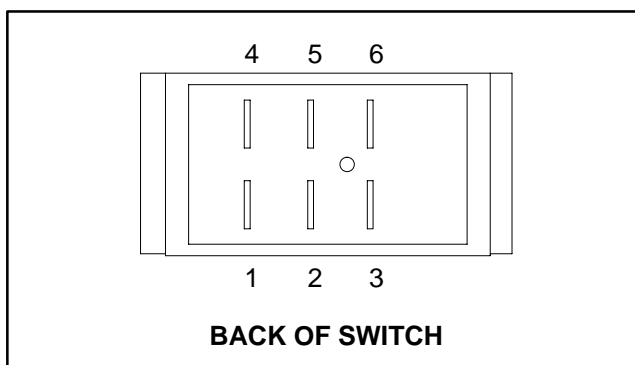

Figure 26
2. The switch terminals are marked as shown in Figure 26. In the INCREASE or boom raise position, continuity should exist between terminals 2 and 3 and also between terminals 5 and 6. In the neutral, center position, there should be no continuity between any switch terminals. In the DECREASE or boom lower position, continuity should exist between terminals 2 and 1 and also between terminals 5 and 4.